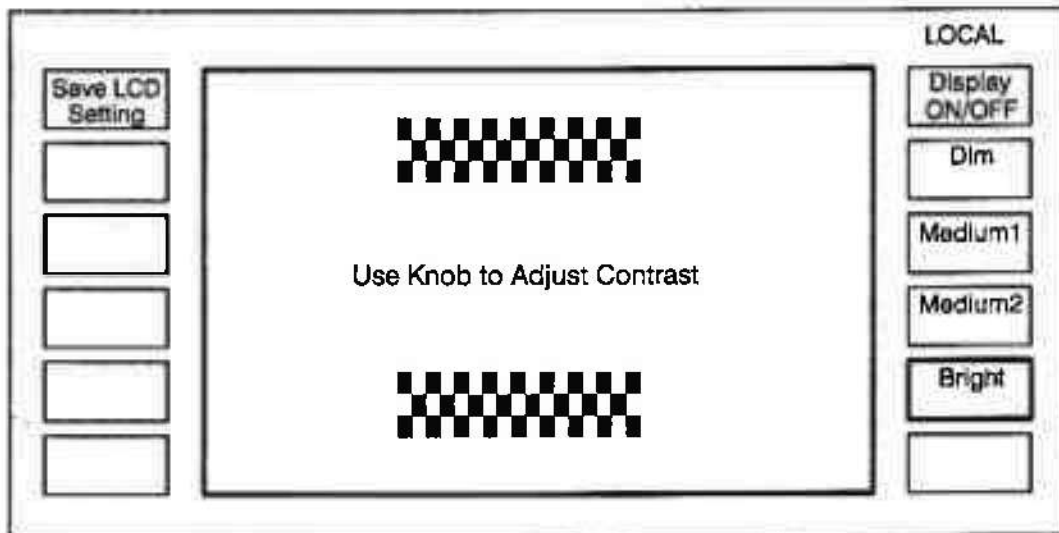

Fig. 14 Display Adjust Menu
45. To adjust the display, press [*Display Adjust*]. The *Display Adjust* menu is displayed on the screen, see Fig.14.